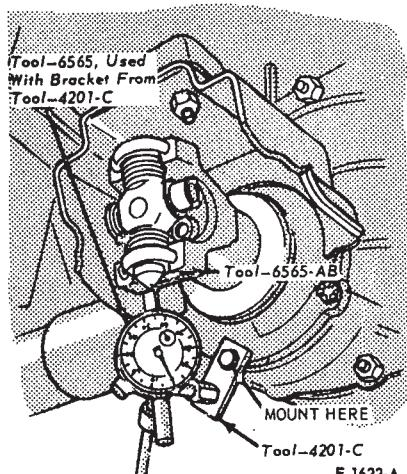

FIG. 6—Flange Bearing Cup Run-out Check—Typical
4. The rear axle companion flange runout is checked with a modified universal joint (checking tool) a dial indicator with 1.000 inch minimum travel, and a cup-shaped dial indicator adapter tool (Fig. 6). To fabricate the checking tool, modify a universal joint assembly by removing two bearing cups that are opposite each other, and cutting or grinding off one of the universal joint bearing flanges (Fig. 6).
6. Turn the companion flange so that the dial indicator cup-type adapter rests on the machined surface of the bearing cup (Fig. 6). Rotate the companion flange side-to-side slightly to obtain a reading indicating that the bearing cup surface is perpendicular to the indicator cup-type adapter. **This will be the point at which the dial indicator cup is closest to the center of companion flange rotation. It is also the point at which the dial indicator hand will reverse direction as the companion flange is turning.** Set the dial indicator to zero.